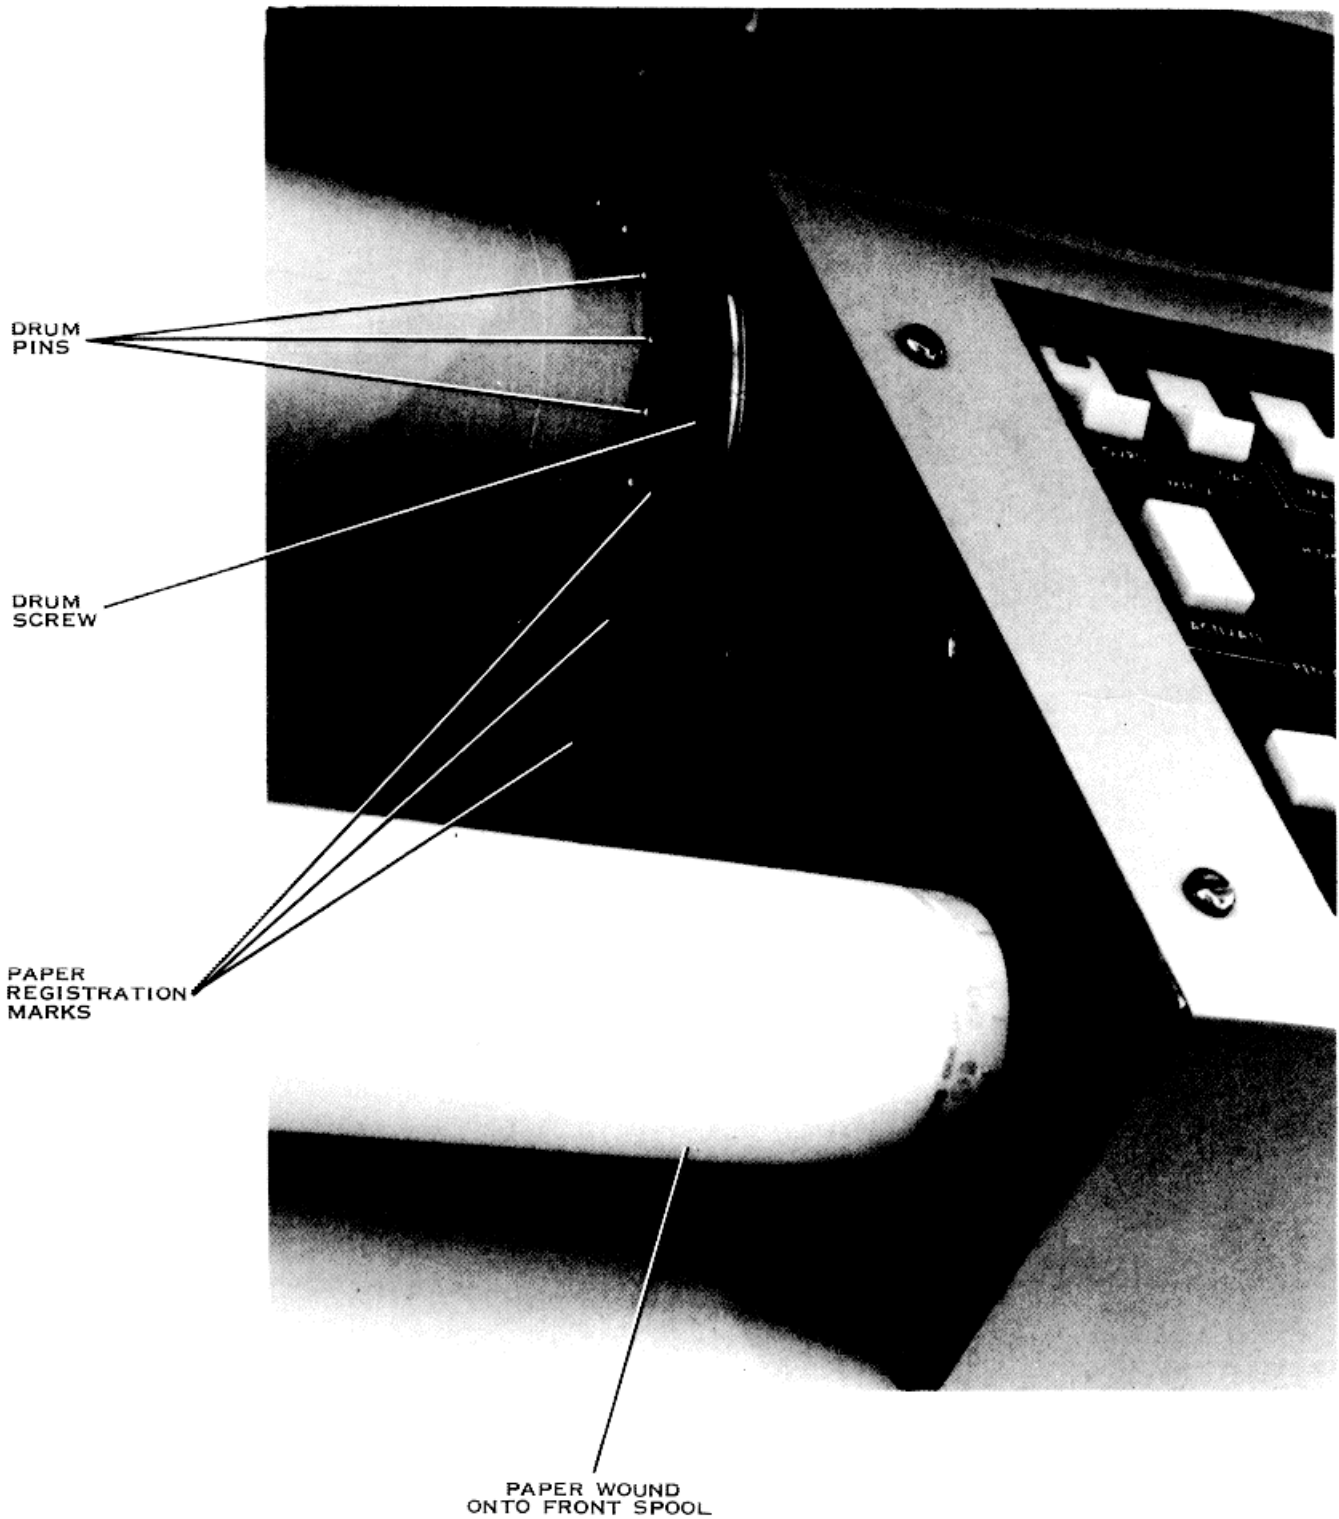

Figure 3-3. paper Alignment positioning
e. Rotate drum by hand until drum screws (figure 3-3) at each end of drum are facing upward. Unroll about 3 feet of paper from rear supply spool.
f. Slide paper between pen carriage and drum. Align sprocket pins on drum into sprocket holes on paper so that holes between registration marks on paper are aligned with drum screws on both ends. See figure 3-3. It is important that paper is aligned correctly to prevent skew.
a. Paper width adjustment may be accomplished at 3 locations. Refer to figure 3-3. The supply and takeup spools must be adjusted to provide proper tracking. They are adjusted in a similar manner. If the paper is too wide, the edges will be compressed by the spring-loaded idler spools. If the paper is too narrow and a gap exists between the end of the roll and the spool, the paper may skew during operation.